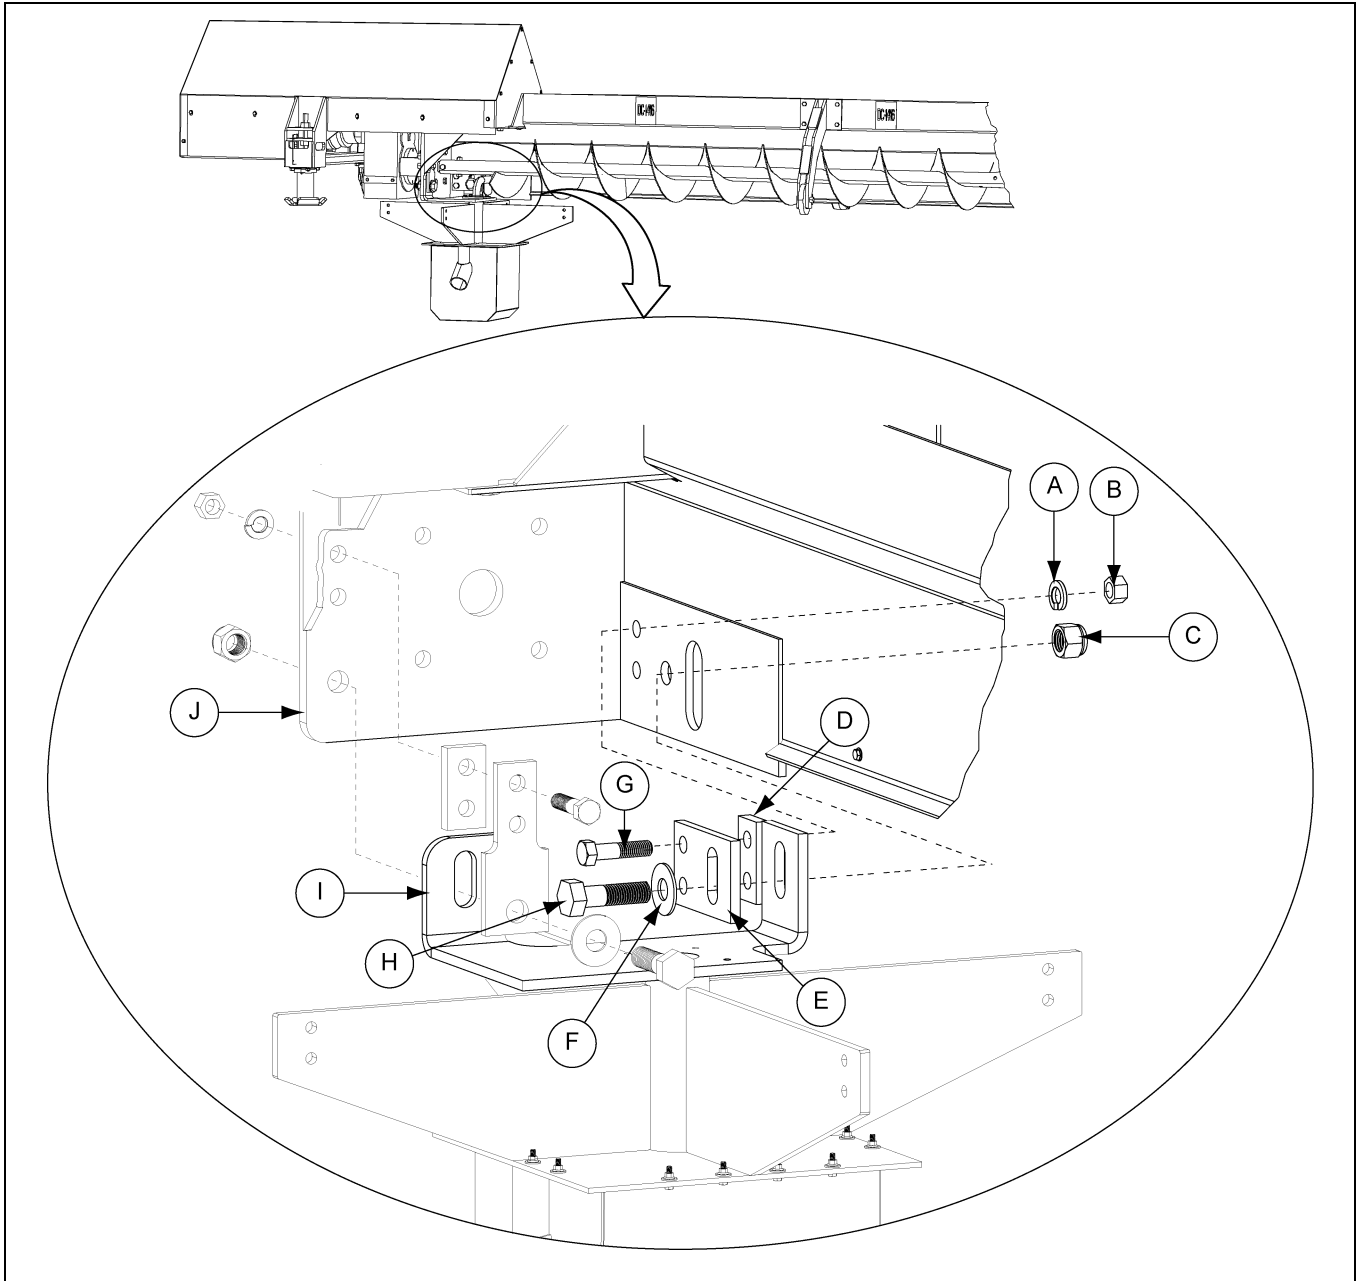

Figure 7C
1. Install sweep shield head section (J) to pivot plate (I) using hex bolts (G and H), flat washer (F), bracket (E), spacer (D), lock washer (A), lock nut (C) and hex nut (B). (See Figure 7C.)